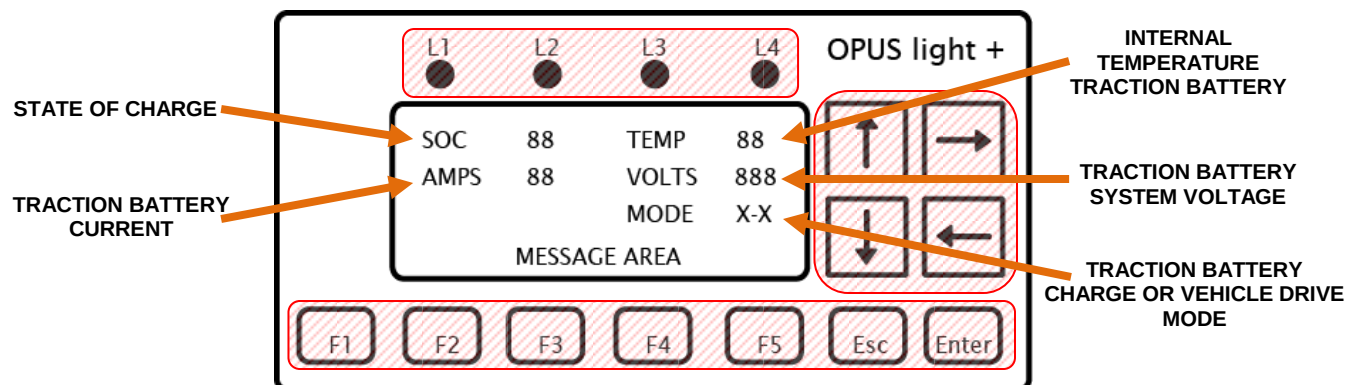

Figure 4.3
Red Shaded Areas - Programming and menu buttons. These buttons serve no purpose to the vehicle operator (Figure 4.3).
- The traction batteries are receiving charge if **MODE** on the Vehicle Information Display reads "**C-1**" for 40kWh vehicle, "**C-2**" for 80Kwh vehicle, or "**C-3**" for 120wKh (Figure 4.3)
- ✓ The traction batteries are fully charged when the **MODE** on the Vehicle Information Display reads “**END**” (Figure 4.3).
EVERY MONTH the batteries MUST be run down below 20% SOC (State of Charge) and then fully recharged until Mode on the vehicle battery status display “END”. (Figure 4.3)
- Check the **State Of Charge** (SOC) on the Vehicle Information Display (Figure 4.3) in relation to the planned journey.